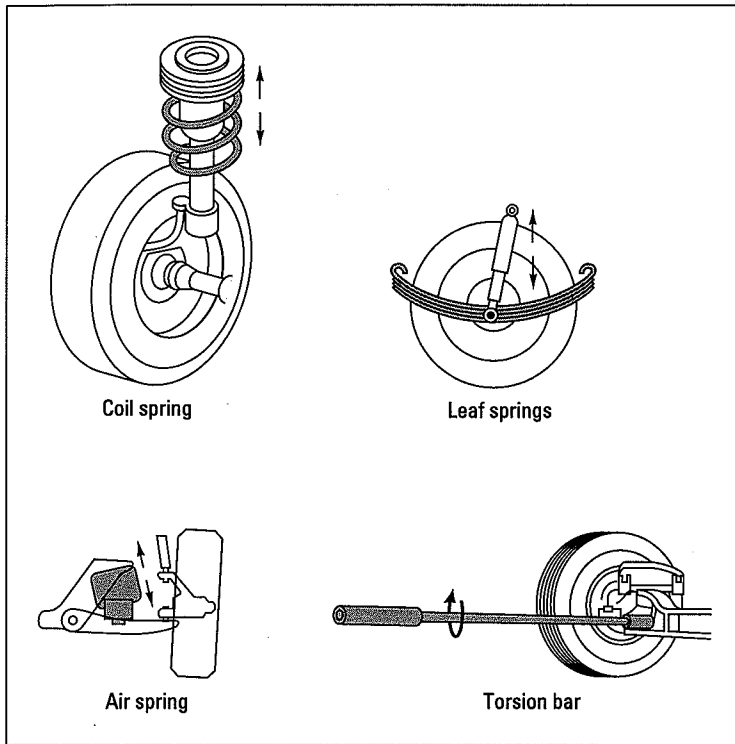

Figure 11-7:
Springs are the core of the suspension system. Various types of springs are used to absorb the bumps and keep your car at its proper trim height. These can be coil springs, leaf springs, torsion bars, or air springs (see Figure 11-7). Most cars use either coil or leaf springs; sport-utility vehicles use coil springs, torsion bars, or leaf springs. You'll find computer-controlled air springs on select luxury cars, such as Chrysler New Yorkers, Lincoln Continentals, and some Cadillacs.
- ✓ **Coil springs** look like old-fashioned bed springs. They're usually found at the front of the car, although they can be at both the front and the rear. Coil springs are typically used with strut-type suspensions, too. Figure 11-7 shows one type of coil spring; Figure 16-7 shows front and rear springs. You can find instructions for lubricating them in Chapter 16. At the front end, coil springs help cushion the bumps, vibrations, and steering movements. At the rear, they're suspended between control arms that have rubber bushings.
- ✓ **Torsion bars** (refer to Figures 11-7 and 16-9) are used mainly in sport-utility vehicles and pre-1980 Chrysler products. They are located at the front of the vehicle, connected to the lower control arms. They twist to accommodate differences in the load that the car may be carrying, allowing the front wheels to move up and down freely. Think of torsion bars as coil springs that didn't get wound into a spiral.
- ✓ **Air springs** are usually found on luxury vehicles. A rubber air spring can be filled with the right amount of compressed air to control the ride and maintain the proper height. With this type of system, a computer monitors the ride height and signals an onboard air compressor to pump more air into the air springs whenever weight is added to the vehicle. When the weight is removed, the computer turns on an exhaust solenoid to let air out of the air springs (refer to Figures 11-7 and 16-10).